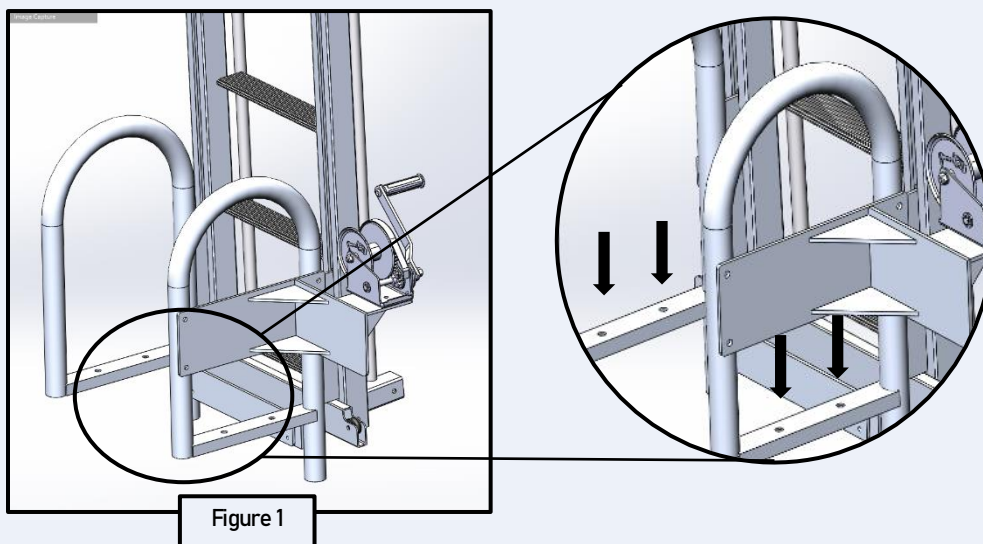

Figure 1
1. Using the mounting holes, shown in Figure 1, at the bottom of the Ladder Assembly as a template, mark the location of the holes on the sea wall or dock where the Kayak Launch Lift will be installed.